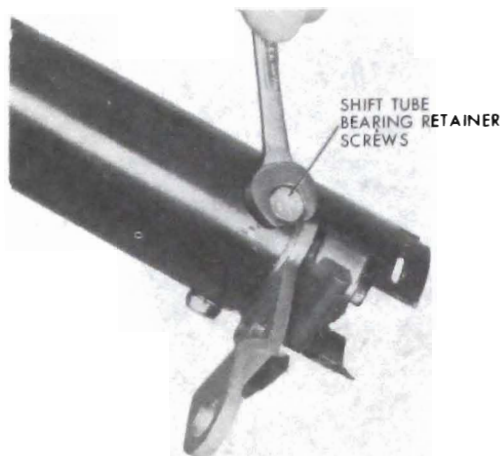

Figure 90-121 Removing Screws from Shift Tube Bearing-Manual Transmission
5. (Manual Transmission Only) Remove three screws from bearing at lower end. See Figure 90-121.
3. (Manual Transmission Only) Loosely attach three screws in jacket and shift tube bearing. See Figure 90-121.